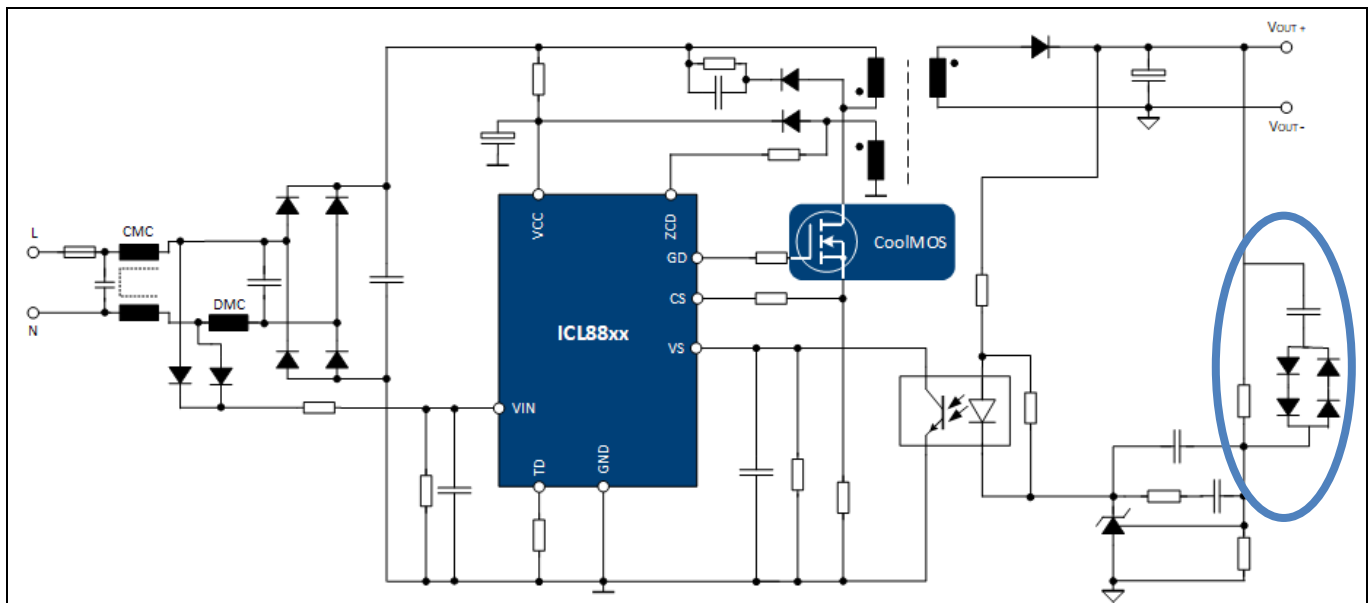

Figure 45 Non-linear feedback circuit for highly dynamic loads without compromising THD and steady-state performance
- Because the feedback loops are optimized to deliver a good THD and PF, the crossover frequency of the loop is very low. This compromises the load-jump behavior and favors soft-dimming behavior. For dynamic load changes, an additional D-path in the feedback loop is required. This can usually consist of a resistor and a capacitor in parallel to the upper voltage divider resistor. However, non-linear feedback with diodes instead of a resistor is also possible. A circuit example is shown in Figure 45